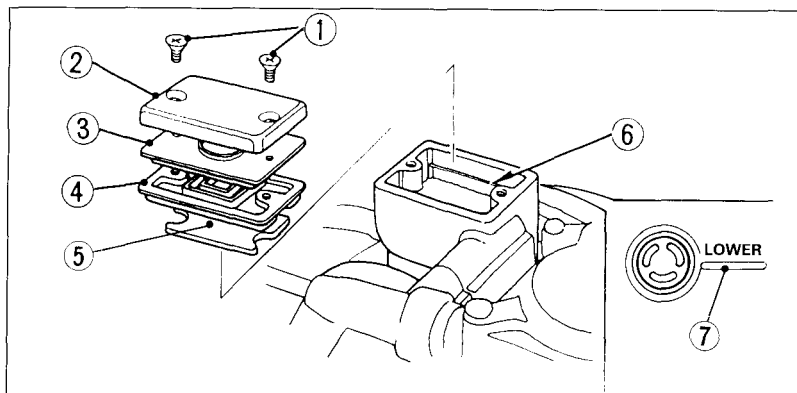

Fig. 4-26
Brake fluid must be added to the reservoir (Fig. 4-26) whenever the fluid level approaches the lower level mark (7). Use only DOT 3 or 4 brake fluid.